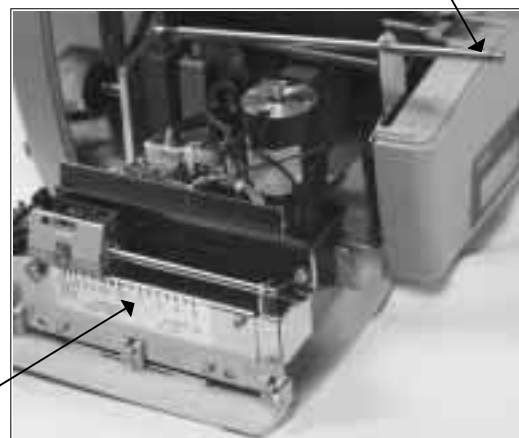

Fig. 7-2
3.	Unscrew rod and remove from the unit. Lift out cutter head and carefully disconnect cables routed to the main PCB and motor. Fig. 7-2